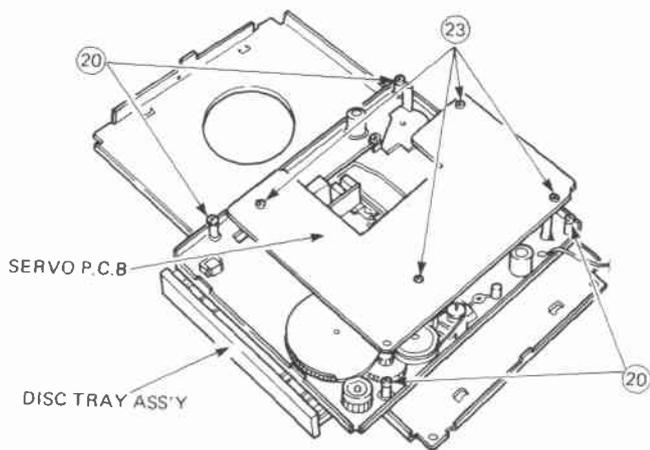

Fig. 12
1) Remove 4 screws (20) . (Fig. 12)
Remove 4 screws (23) (Fig. 12) and then remove the SERVO P.C.B.